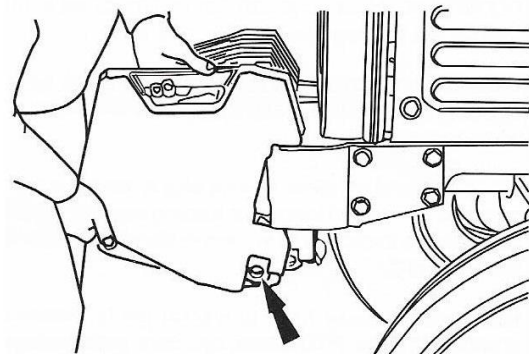

Fig. 14
- Use front counterweights to increase tractor stability when towing a heavy load or to counter balance a heavy rear mounted implement (Fig. 14).